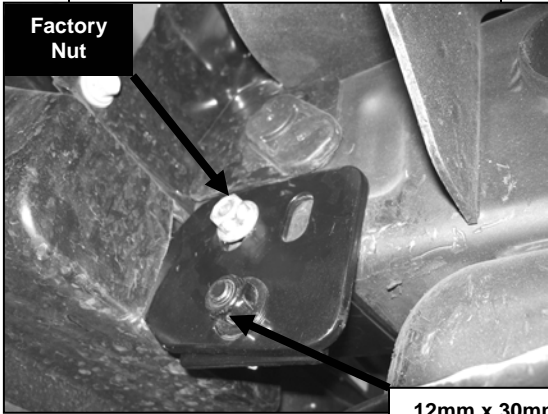

Figure 2
8. From the rear side of front bumper, insert (1) Mounting Bracket through tow hook cavity and mount it on the outer side of driver/left frame rail (Figure2).
9. Insert (1) Tube Spacer into front of driver/left side frame rail and align it with front tow hook mounting location. While holding Tube Spacer in place insert factory tow hook bolt through Frame Bracket, frame, Tube Spacer, and Mounting Bracket. Secure it with factory nut. Do not tighten at this time